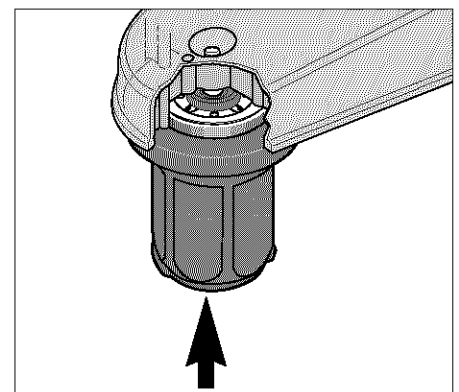

Figure 5-6A
7. Using a firm push on the spindle head assembly (Figure 5-6A), seat the spindle head assembly into the hole. Check that the threaded end of the spindle shaft is protruding through the bottom of the hole.